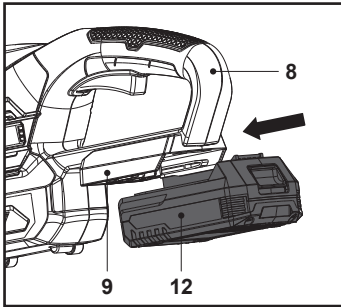

Fig. 3
- Align the battery pack (12) with the sliding slots of the battery docking port (9) under the rear safeguard (8) and slide the battery pack (12) in to attach it.
- Ensure it clicks in place (Fig. 3).